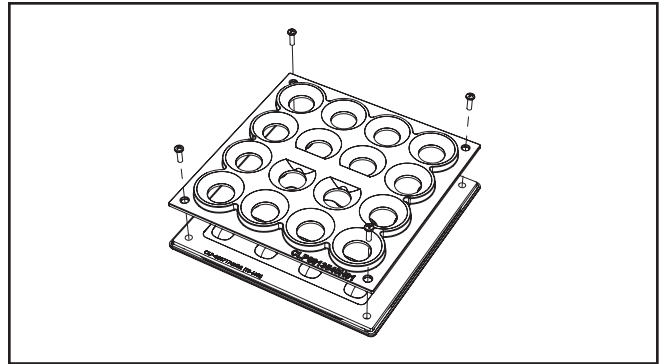

Figure 1.
2. Remove the trim ring and place the shield over the light square as shown. (FIG. 1)